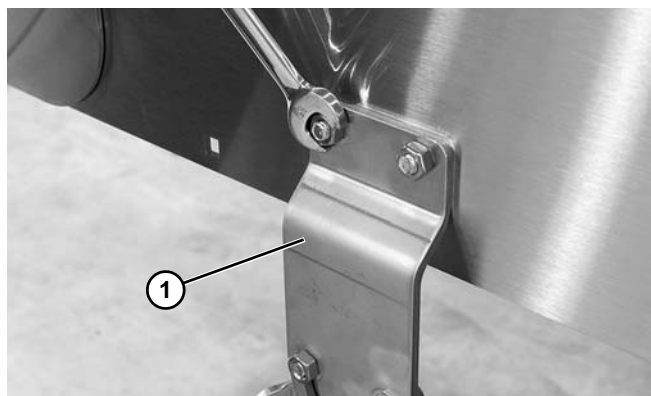

Figure 11
2. Attach the stands (**Figure 11, item 1**) to the frame. Tighten carriage bolt nuts to 14-16 ft-lbs (19-22 Nm).